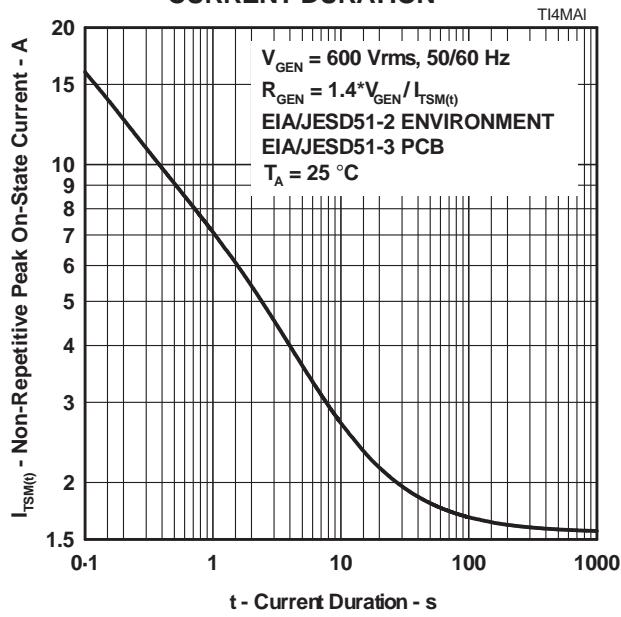

Figure 9.
5. EIA/JESD51-2 environment and EIA/JESD51-3 PCB with standard footprint dimensions connected with 5 A rated printed wiring track widths. See Figure 9 for the current ratings at other durations. Derate current values at $-0.61\%/\text{ }^\circ\text{C}$ for ambient temperatures above 25°C .
The protector can withstand currents applied for times not exceeding those shown in Figure 9. Currents that exceed these times must be terminated or reduced to avoid protector failure. Fuses, PTC (Positive Temperature Coefficient) thermistors and fusible resistors are overcurrent protection devices which can be used to reduce the current flow. Protective fuses may range from a few hundred milliamperes to one ampere. In some cases, it may be necessary to add some extra series resistance to prevent the fuse opening during impulse testing. The current versus time characteristic of the overcurrent protector must be below the line shown in Figure 9. In some cases, there may be a further time limit imposed by the test standard (e.g. UL 1459 wiring simulator failure).